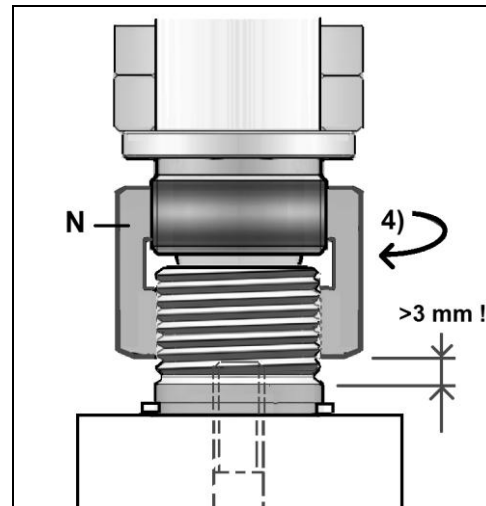
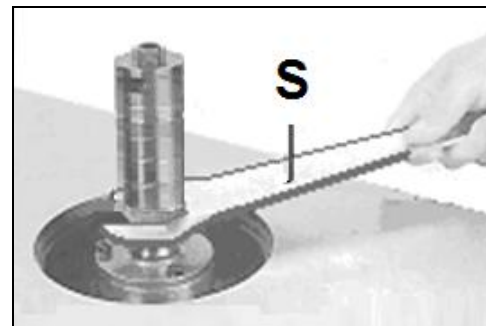

Fig 14
Fig 15
4) Firmly tighten the arbour nut (N, Fig 14) using the supplied spanner (S, Fig 15) .